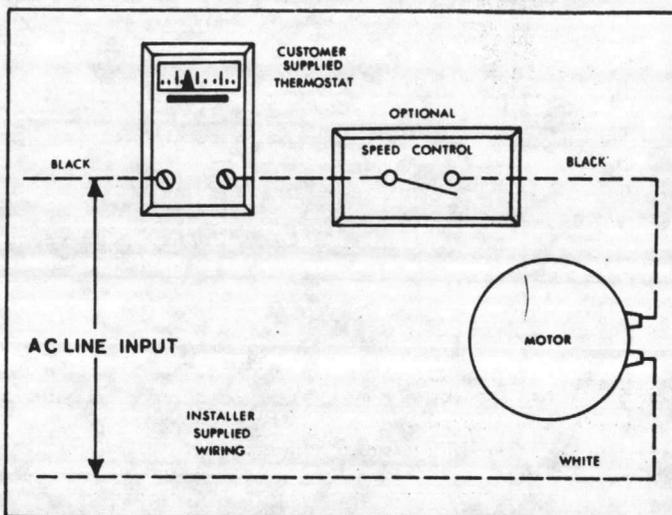

FIGURE 14 — Wiring Diagram of Speed Control Installation
The solid state speed controller may be installed at any convenient location and is suitable for surface or flush type mounting. A standard electrical single or double gang wall box is recommended as in Figure 14.
1. Attach the control's leads to the electrical leads in the control box using wire nuts. The speed control is to be wired in series with the motor. See wiring diagram in Figure 14.